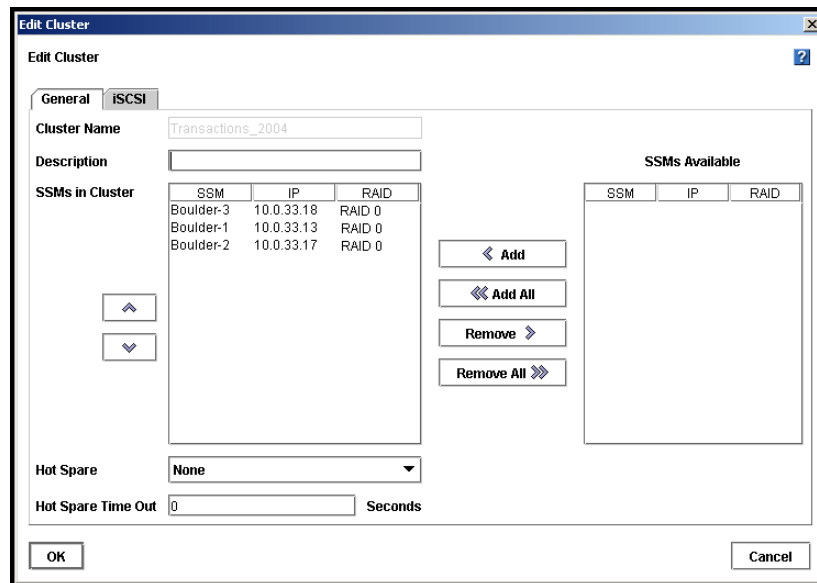

Figure 159. Editing a Cluster
2. From the Tasks menu on the Details tab, select Edit Cluster. The Edit Cluster window opens, shown in Figure 159.